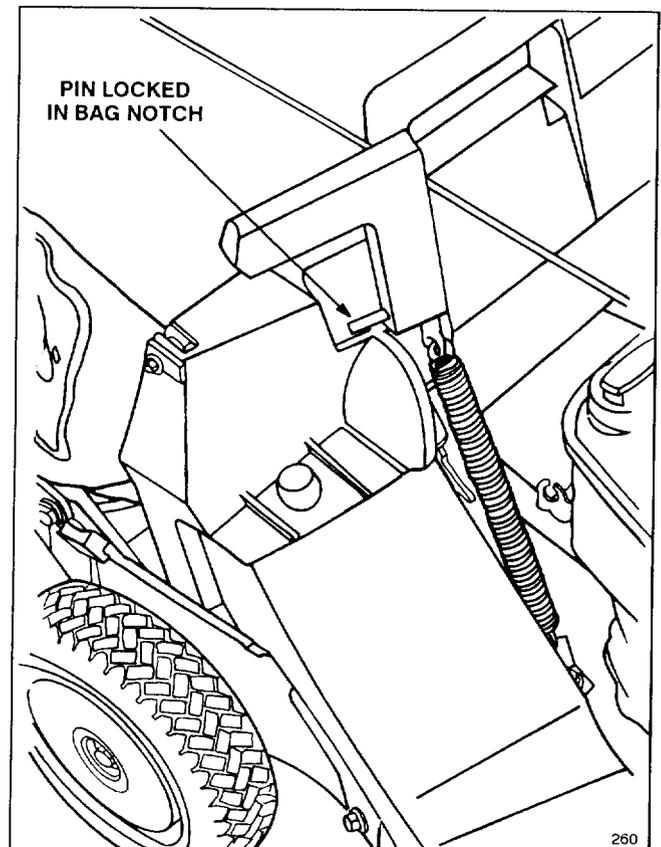

Figure 7
4. Pull discharge door handle forward until pin clears catch and move handle rearward until pin locks in bag notch (Fig. 7). Discharge door in mower housing is now open.